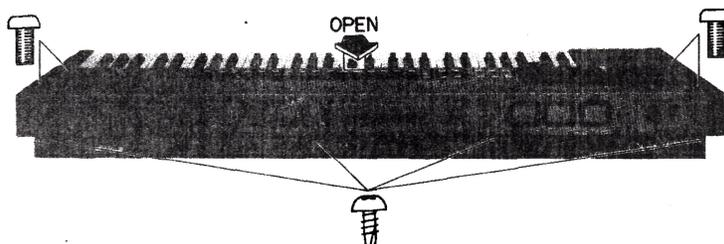

Fig. 1-1
1-1. HOW TO OPEN THE FRONT PANEL. (Refer to Fig. 1-1 and 1-3.)
- 1) Remove 8 screws as in Fig. 1-1, and open the front panel as shown Fig. 1-3.